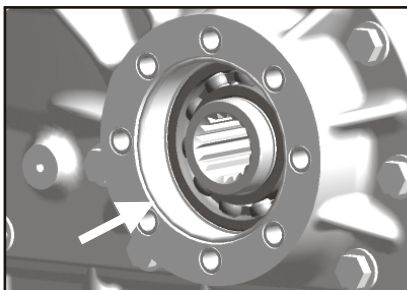

Fig. 3
- a. Install O-Ring, furnished with P.T.O., on transmission mounting surface (**Fig.3**). To prevent damage to O-Ring make sure it is installed in groove as shown.